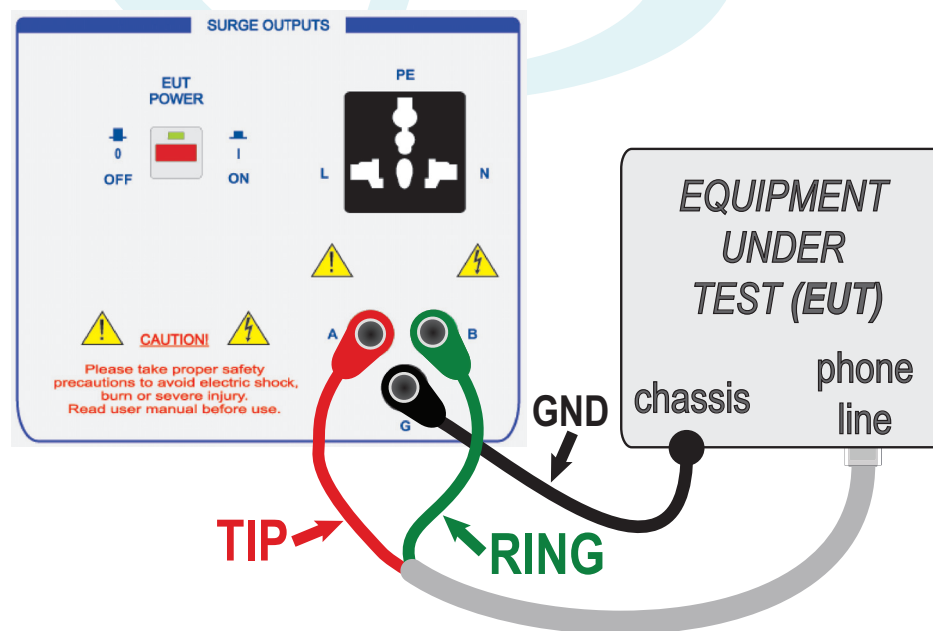

FIGURE 10 - Coupling Example for **Type B – 1000V (metallic) Surge**
The SGTEL-168 applies this surge between Terminals (A) and (B). Therefore, the EUT lines to be tested should be connected to these terminals for this surge, as shown in Figure 10.